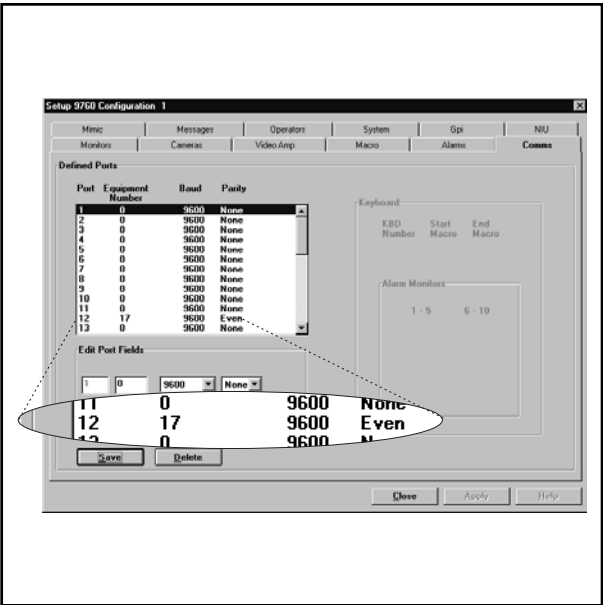

Figure 12. Configuring the COMMS File for REL Operation
3. Define operator access, save the GPI file, return to the MGR main menu screen and press the tab to bring up the COMMS file (.SCP file). Refer to Figure 12.